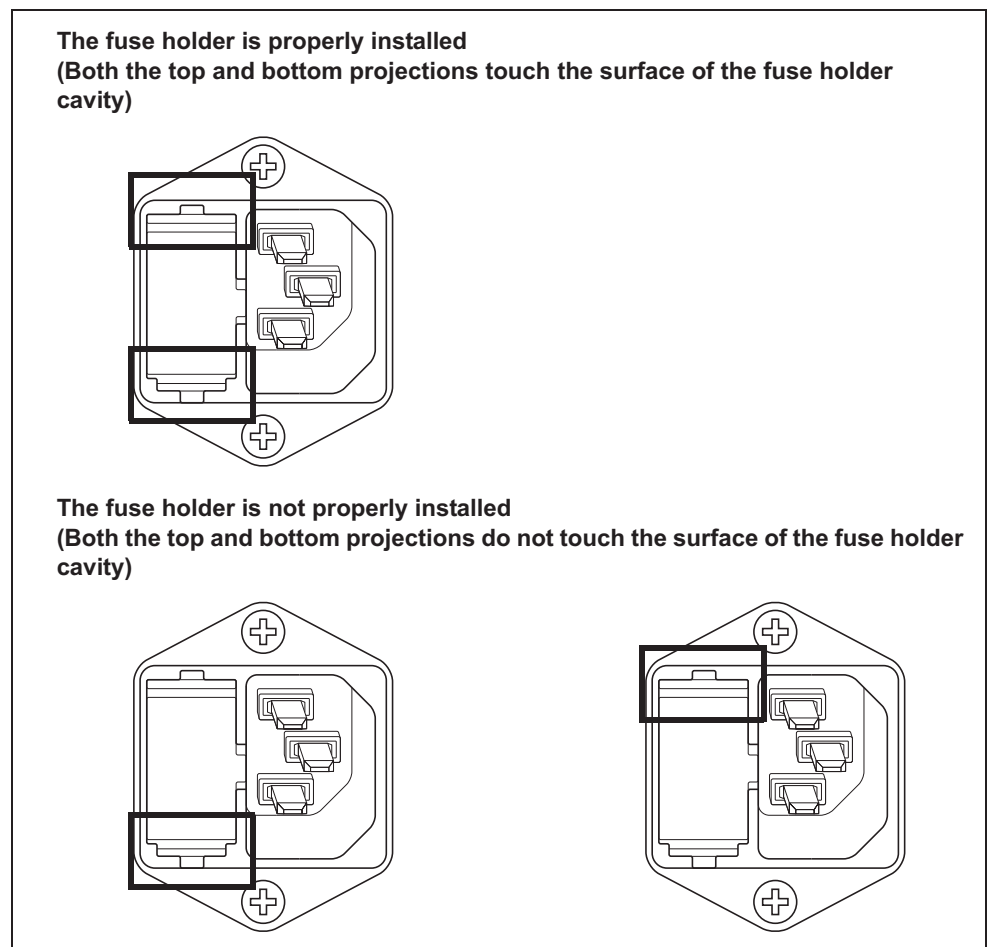

Figure 4.21
- 6 Insert the fuse holder into the equipment until it clicks. Confirm that the fuse holder is properly installed, referring to Figure 4.21.